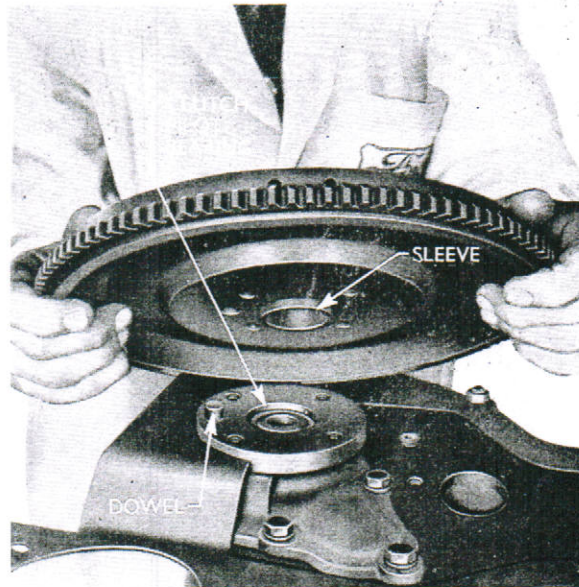

Fig. 22
13. (a) **Refit the flywheel** complete with locating sleeve (see Fig. 22), after first checking that the pilot bearing is in the crankshaft end and that the mounting flange and crankshaft flange are clean and free from burrs. Locate the flywheel squarely upon the dowel in the crankshaft flange, tap it into place, fit the locking plate and retaining bolts tightening them evenly to the correct torque (see *Specification*).